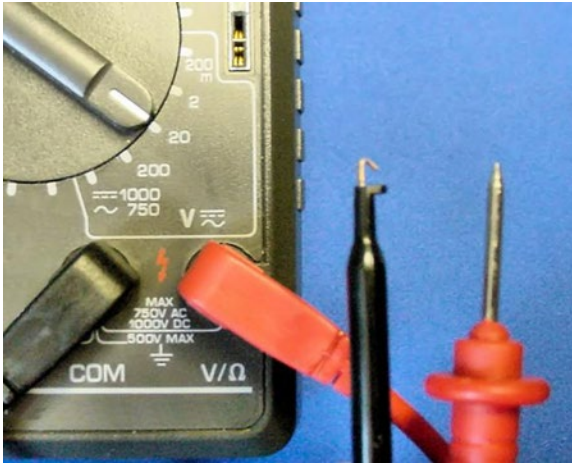

Figure 11-3. Multimeter setup for measuring voltage at various locations in a circuit
1. Set up your multimeter as you would to measure battery voltage (see Figure 11-3). Use a hook or alligator clip adapter on the black (COM) test probe. However, the red test probe should be a bare metal tip since you're going to move it around a lot.